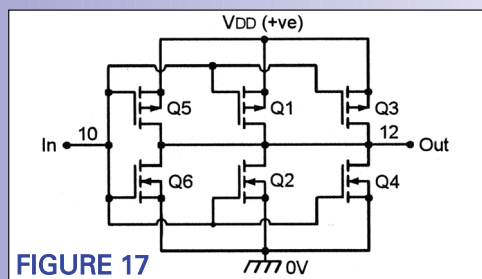

FIGURE 17
inverter, and Figure 17 shows the connections for making a single inverter that will sink or source three times more current than a standard inverter stage.
■ **FIGURE 17: 4007UB HIGH-POWER INVERTER, WITH TRIPLE THE SINK- AND SOURCE-CURRENT CAPABILITY OF A STANDARD INVERTER.**